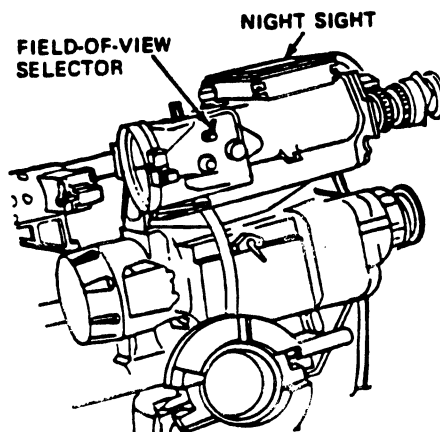

Fig 3-20. Field-of-view selector (night sight).
Step 2. Set the field-of-view selector to WFOV (fig 3-20).